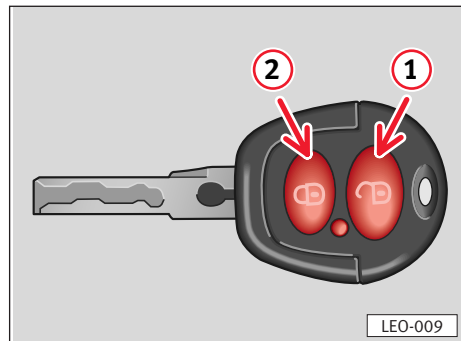

Fig. 68
To interrupt the triggering of the alarm you must turn the key in the lock clockwise or press the open ⇒ fig. 68 ① button on the remote control.
To **open** the car, point the key at it within the effective range and briefly press the opening button ⇒ fig. 68, arrow ① **once**:
- If you press the opening button ⇒ fig. 68, arrow ① **twice** all the locks are unlocked.
2. Press and hold "close" button ⇒ fig. 68, arrow ②.
3. Press "open" button ⇒ fig. 68, arrow ① 3 times. Release "close" button. The key has now been recoded. To check the system, the warning lamp in the door trim will flash, and the light in the key will flash 5 times.